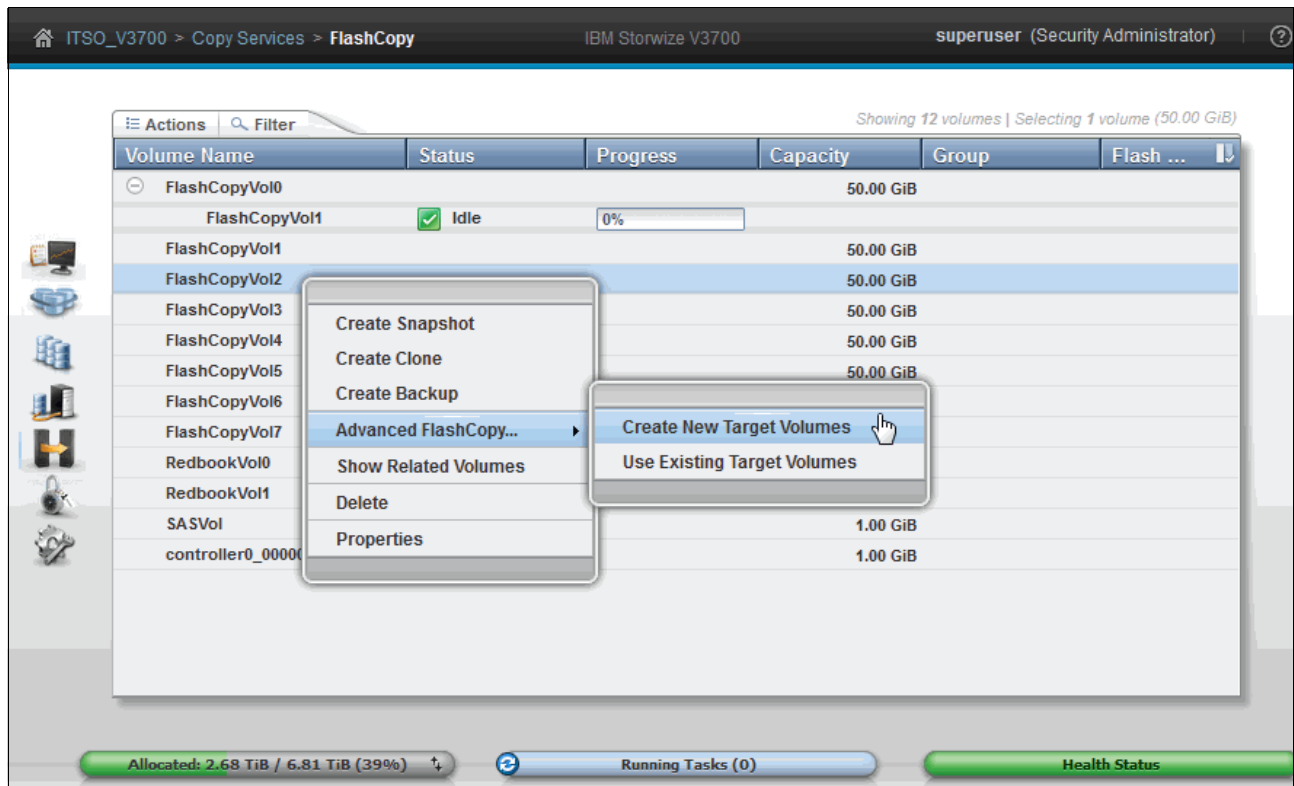

Figure 10-14 Create advanced FlashCopy
1. Select the volume that you want to be the source volume for the FlashCopy mapping and click **Advanced FlashCopy** from the **Actions** menu, as shown in Figure 10-14.